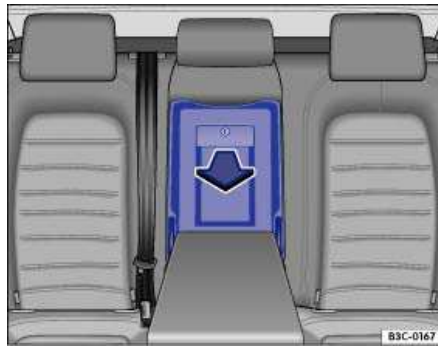

Fig. 102 In the rear seat backrest: Opening the luggage compartment pass-through.
- ☐ Pull the release lever ⇒ fig. 102 and fold the pass-through cover all the way forward.